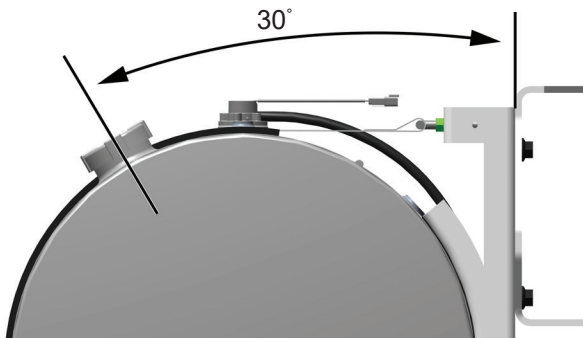

Figure 7 - Fuel Tank Angle
11. Make sure fuel tank angle is correct. See Figure 7.